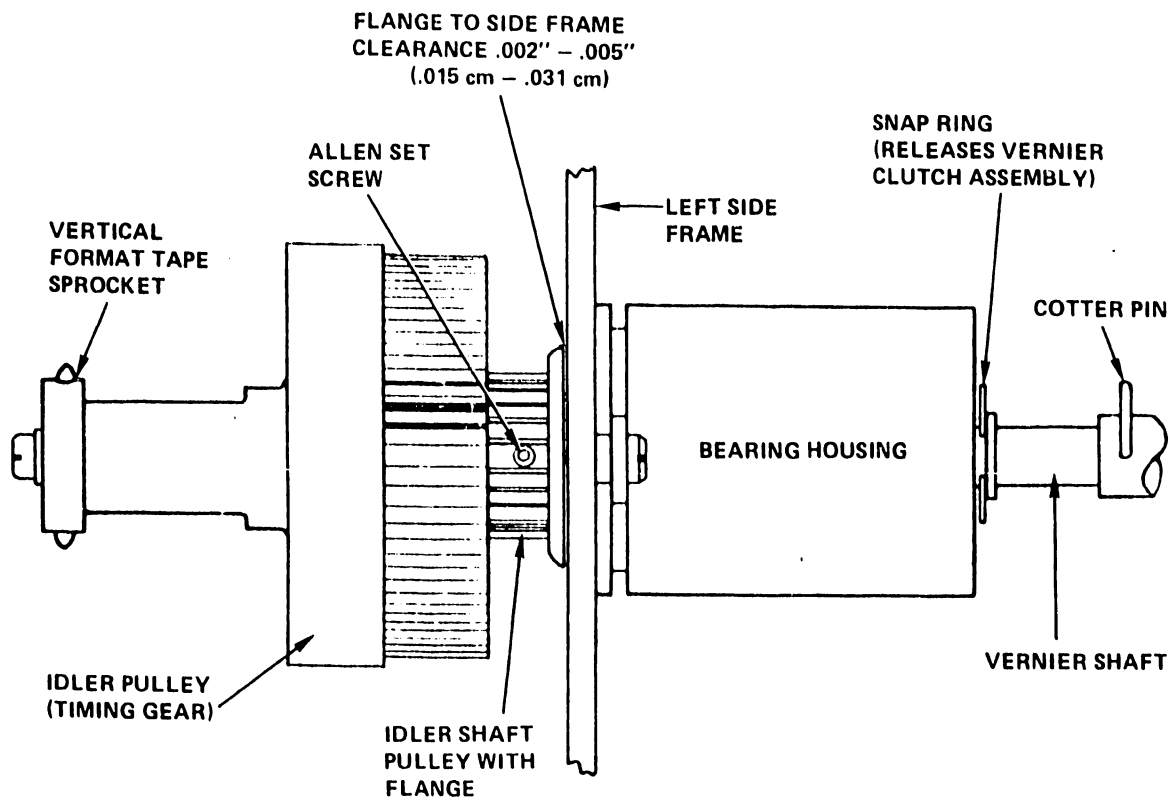

Figure 5-40. Vernier Clutch Adjustments
2. With a feeler gauge, check for a clearance of .002" to .005" (.005 cm to .013 cm) between the flange of the idler shaft pulley and the left side frame (plate) as shown in Figure 5-40. If the clearance is out of tolerance, proceed with the following adjustments.